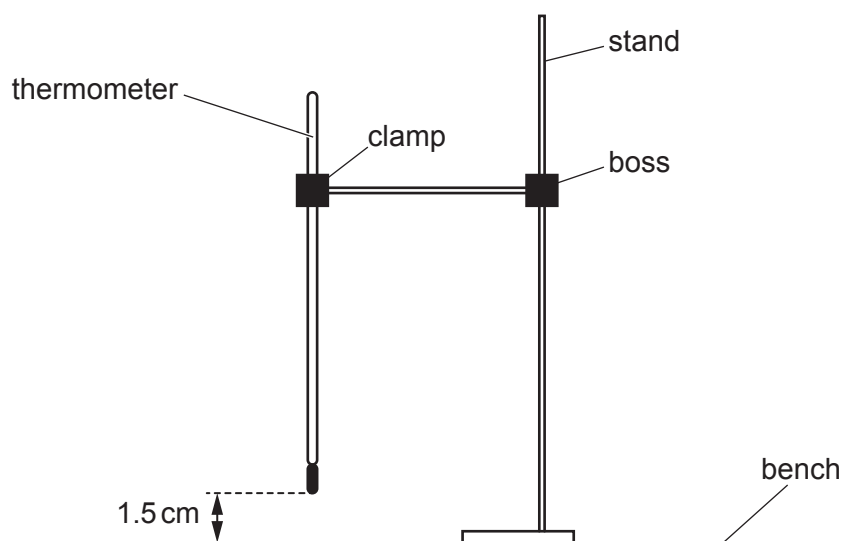

Fig. 2.1
1. The thermometer should be held in the clamp, as shown in Fig. 2.1.
Check that the thermometer is set up, as shown in Fig. 2.1.